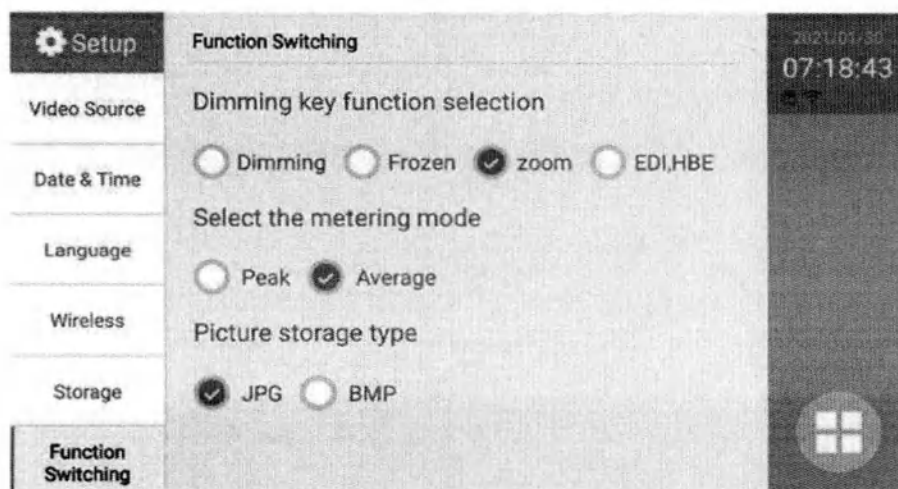

Fig3.14
3.2.7.1. Under the main menu, press the "function switch" button. Enter the function switching setting interface, and select "Scale" below (as shown in Fig 3.14). Then return to the preview interface.